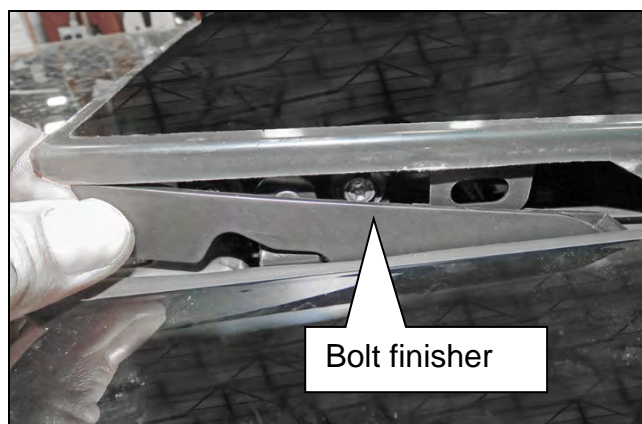

Figure 109
39. Position the new bolt finisher as shown in Figure 109.